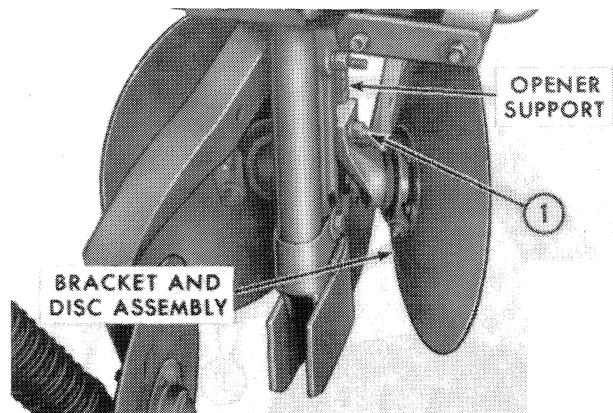

Figure 26
Attaching: Position a bracket and disc assembly against the slot on each side of the opener support, Figure 26. Secure both bracket and disc assemblies to the opener support with the 7/16" - 14 x 2-1/2" bolt, washer, and nut shown at (1). The disc assemblies can be adjusted on the opener support by loosening the mounting bolt (1), and raising or lowering the assemblies to the desired depth.